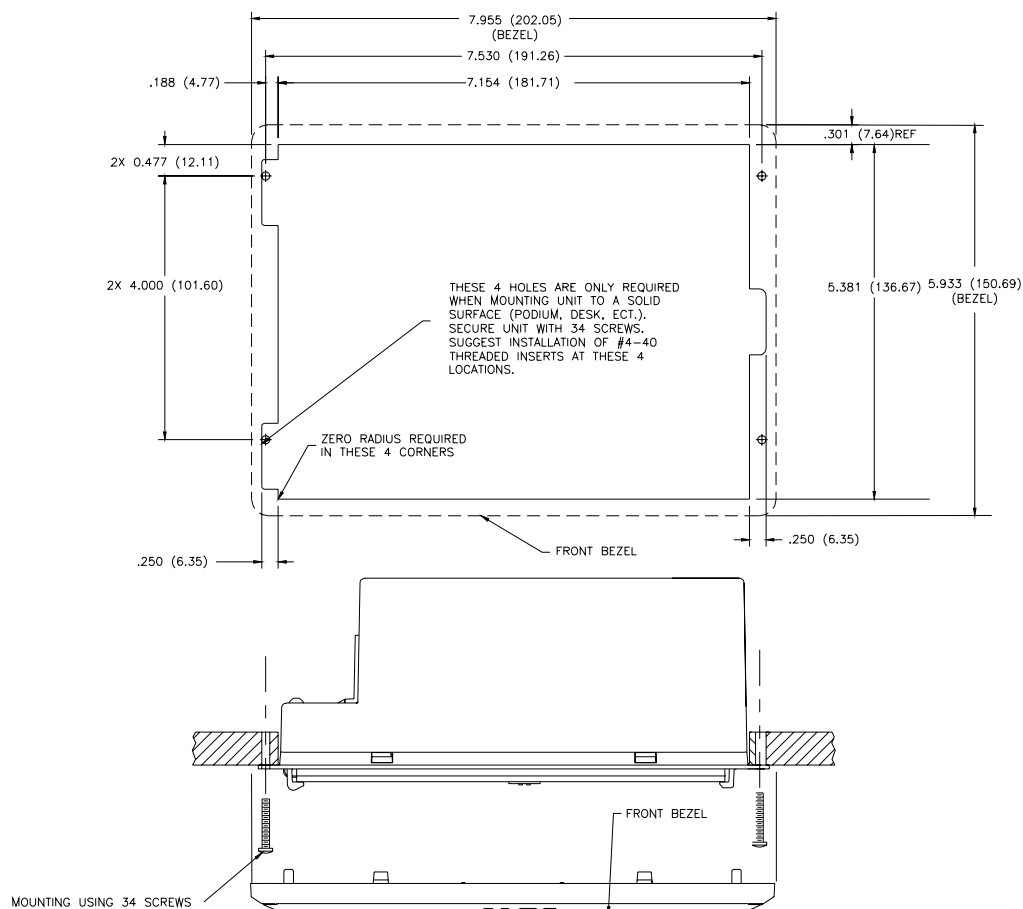

FIG. 40 NXD-CV7 Wall Mount panel dimensions using #4-40 mounting screws
- Refer to **SP-2258-01** for detailed installation dimensions (reproduced in FIG. 40).
2. Cut out the surface for the NXD Wall Mount unit using the dimensions shown in FIG. 40.